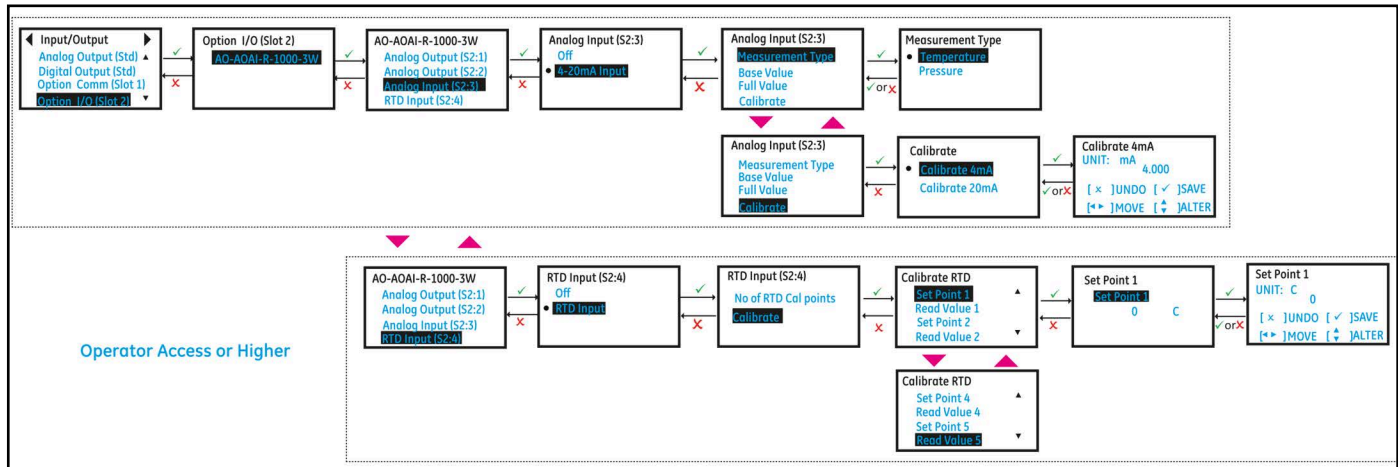

Figure 39: Setting up Option I/O Analog Input/RTD Input
4. If you are connecting an Analog Input, choose **[4-20mA]** option. *Figure 39* below, shows the options available.
2. Use steps as in section "Log-in and Primary Pages" to navigate to the *Input/Output* settings page. Refer to Figure 39 above, highlight **[Option I/O (Slot 2)]** and press **[ENTER]**.